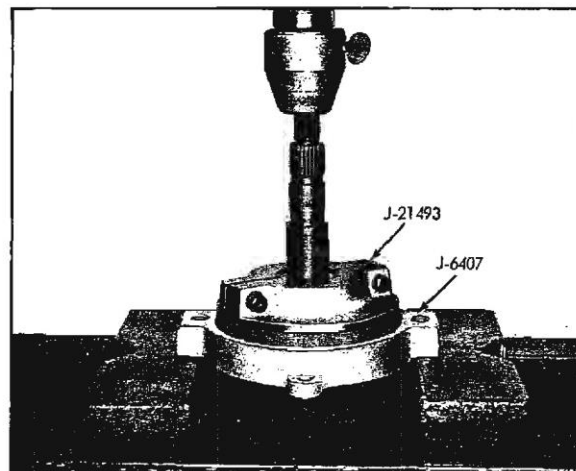

Fig. 4-32 Removing Rear Pinion Bearing
1. If replacing rear pinion bearing or changing pinion depth setting, remove rear pinion bearing from pinion shaft using remover J-21493 with holder J-6407 (Fig. 4-32).